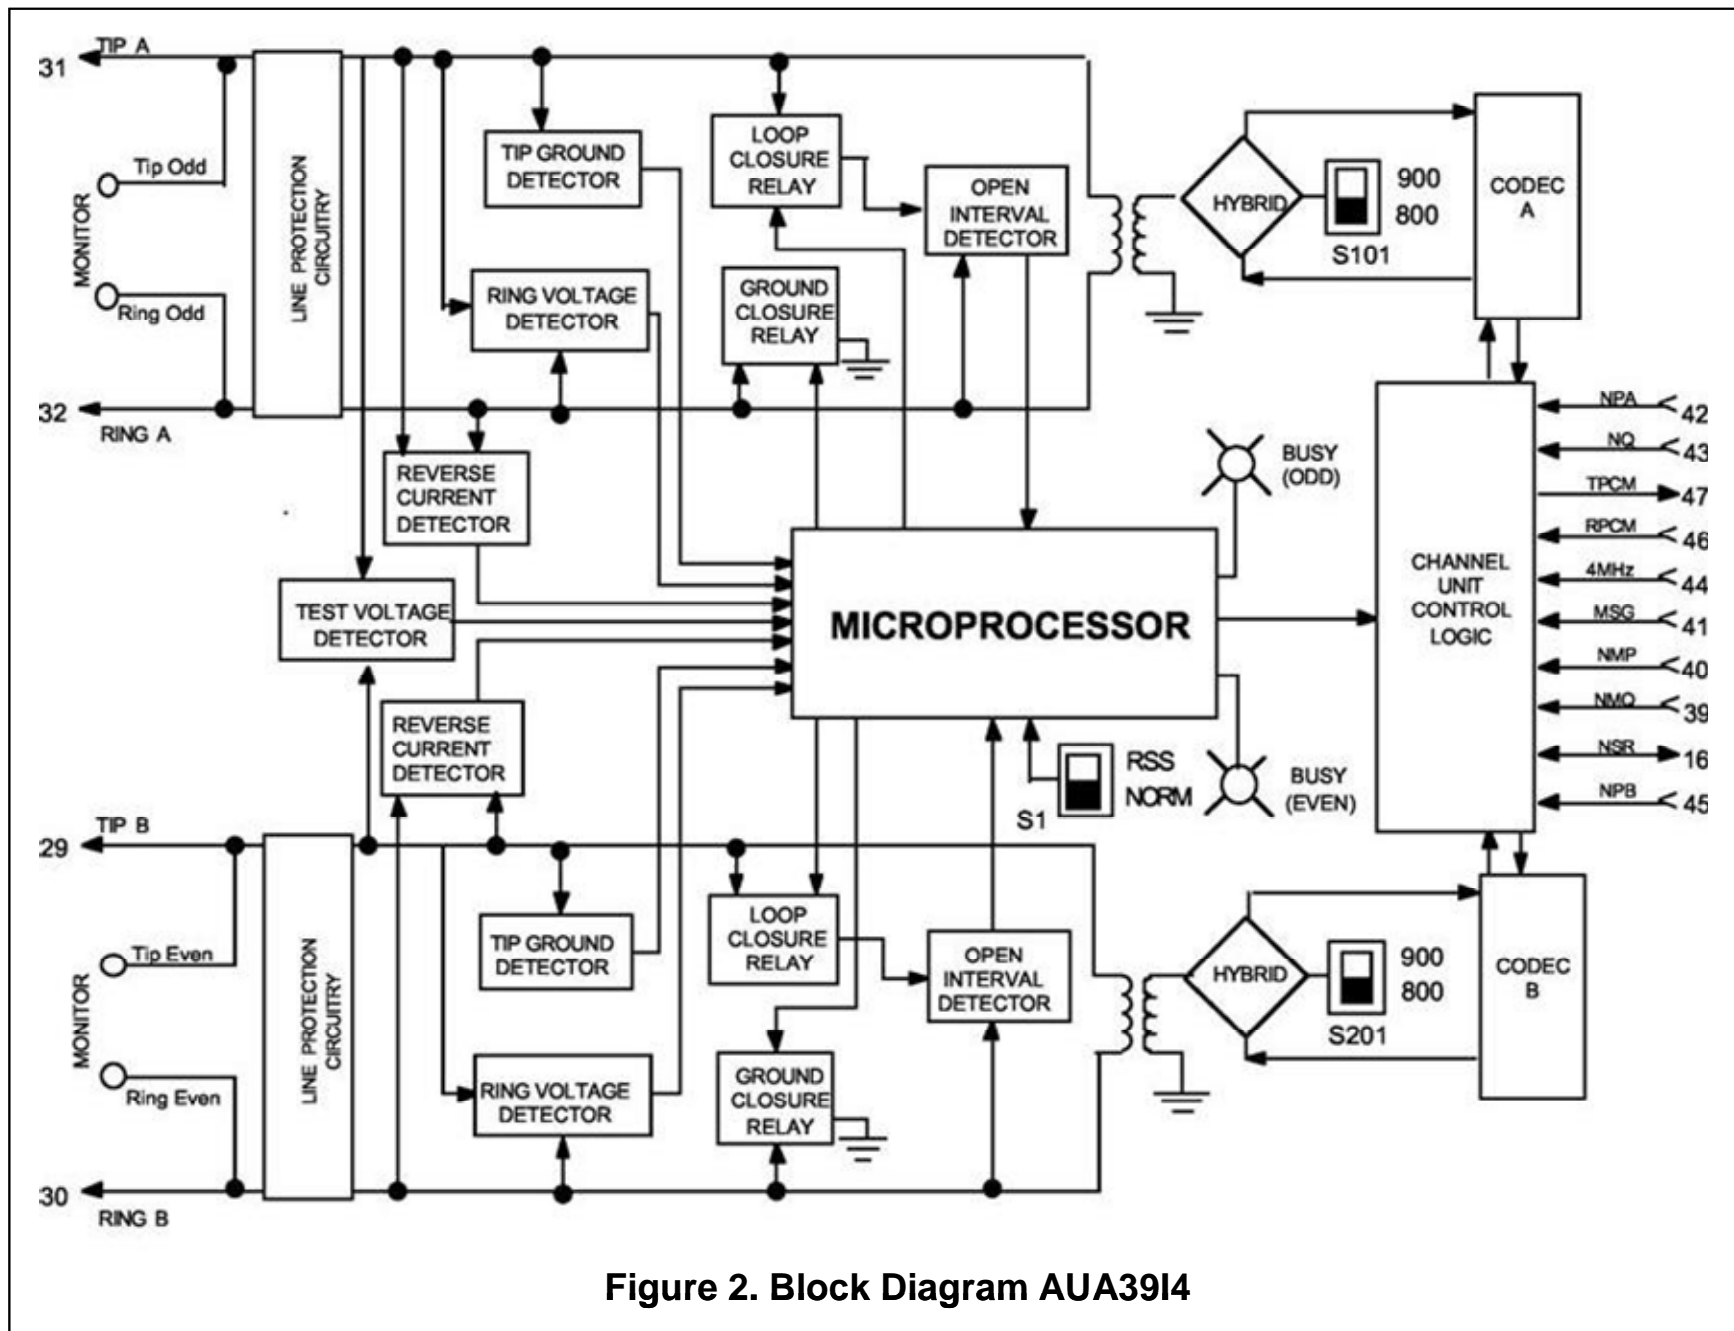

Figure 2. Block Diagram AUA39I4
3.01 Refer to Figure 2, the Engenuity AUA3914 functional Block Diagram, as needed while reading the following description. The AUA3914 is designed with two independent channels of service per card. The following description serves equally for both channels; A and B.